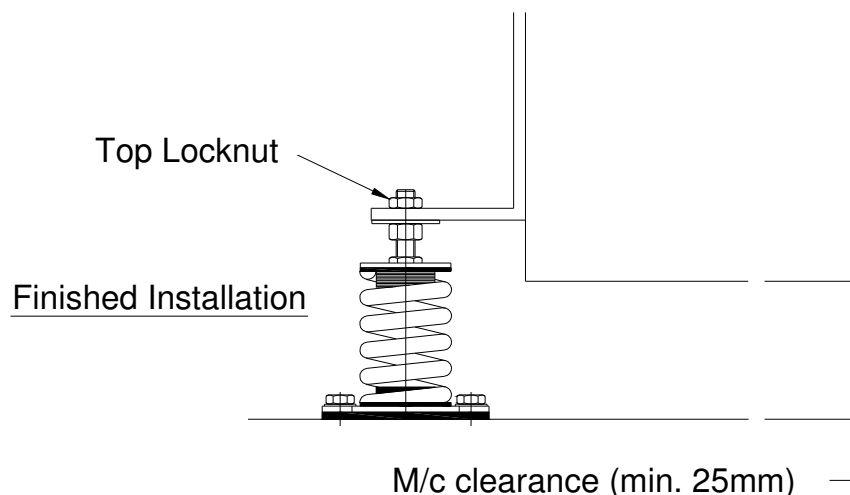

Figure 2.
- Isolator screws should then be wound up until contact with machine under base is made. After removal of blocks the machine base can be carefully lowered evenly across supported area, transferring full weight to the isolators. Further machine height adjustment can be achieved by relieving load on isolators and winding adjusting screw up or down, isolator H.D. bolts and top lock nuts should now be fully tightened. (See Figure 2) Ensure at least 3 full threads are left protruding below the upper plate.